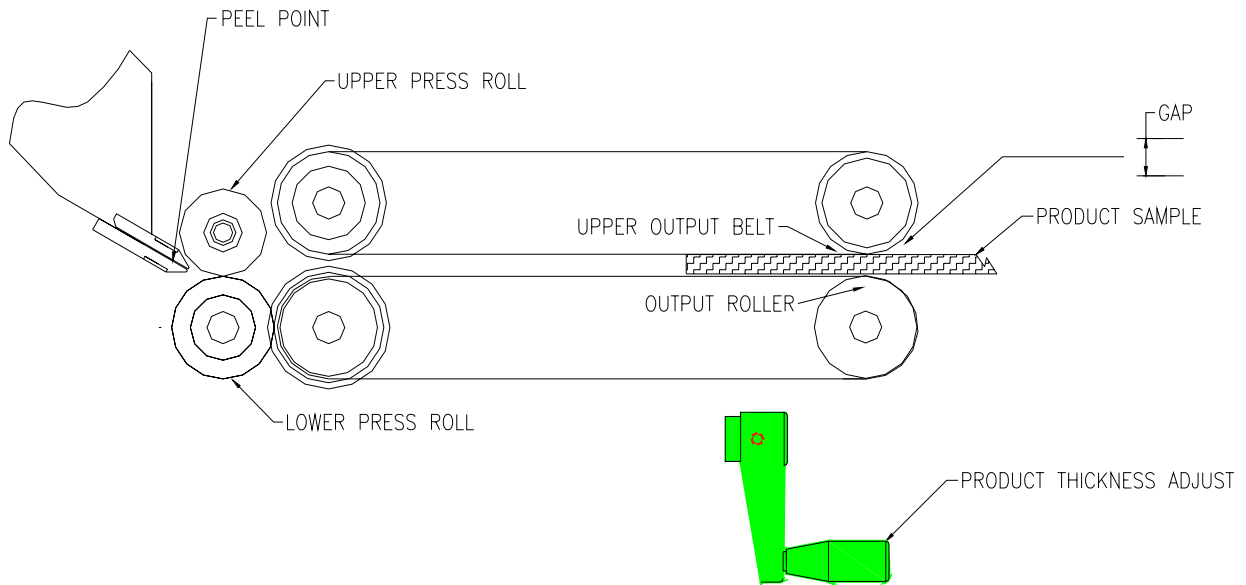

Figure 10
1. Rotate Product Thickness Crank (See Figure 10) clockwise. Insert product sample to be tabbed between upper output belt and output roller below.